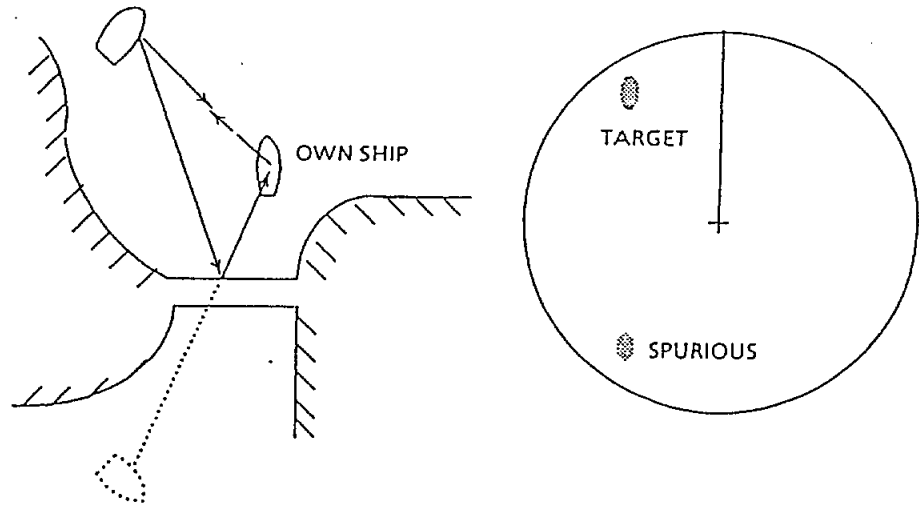

Figure 2-7 Indirect Echoes
Indirect echoes may be returned from either a passing ship or returned from a reflecting surface on your own ship, for example, a stack. In both cases, the echo will return from a legitimate contact to the antenna by the same indirect path. The echo will appear on the same bearing of the reflected surface, but at the same range as the direct echo. Figure 2-7 illustrates the effect of an indirect echo. Indirect echoes may be recognized as follows. (1) they usually occur in a shadow sector; (2) they appear on the bearing of the obstruction but at the range of the legitimate contact; (3) when plotted, their movements are usually abnormal, and (4) their shapes may indicate that they are not direct echoes.